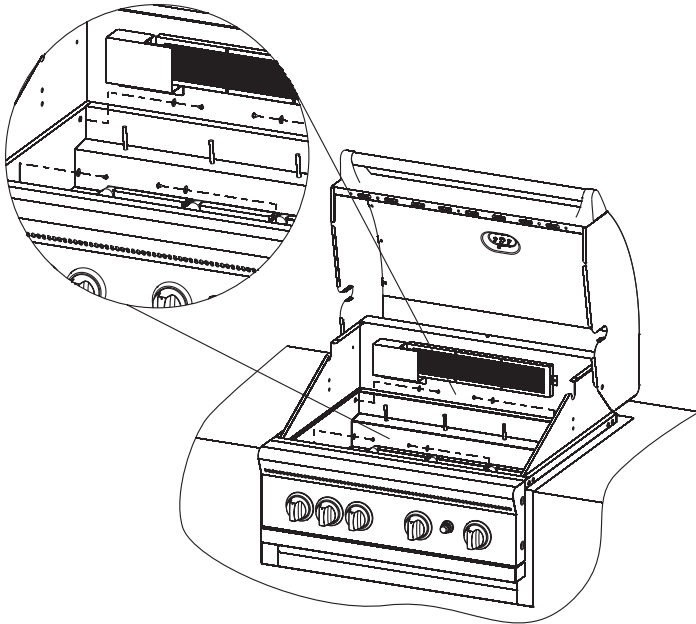

Figure 1
1. The grill is shipped with the surround and the grill head attached by four screws as shown in the drawing below. Please remove the four screws to separate the surround from the grill head. See **Figure 1**.